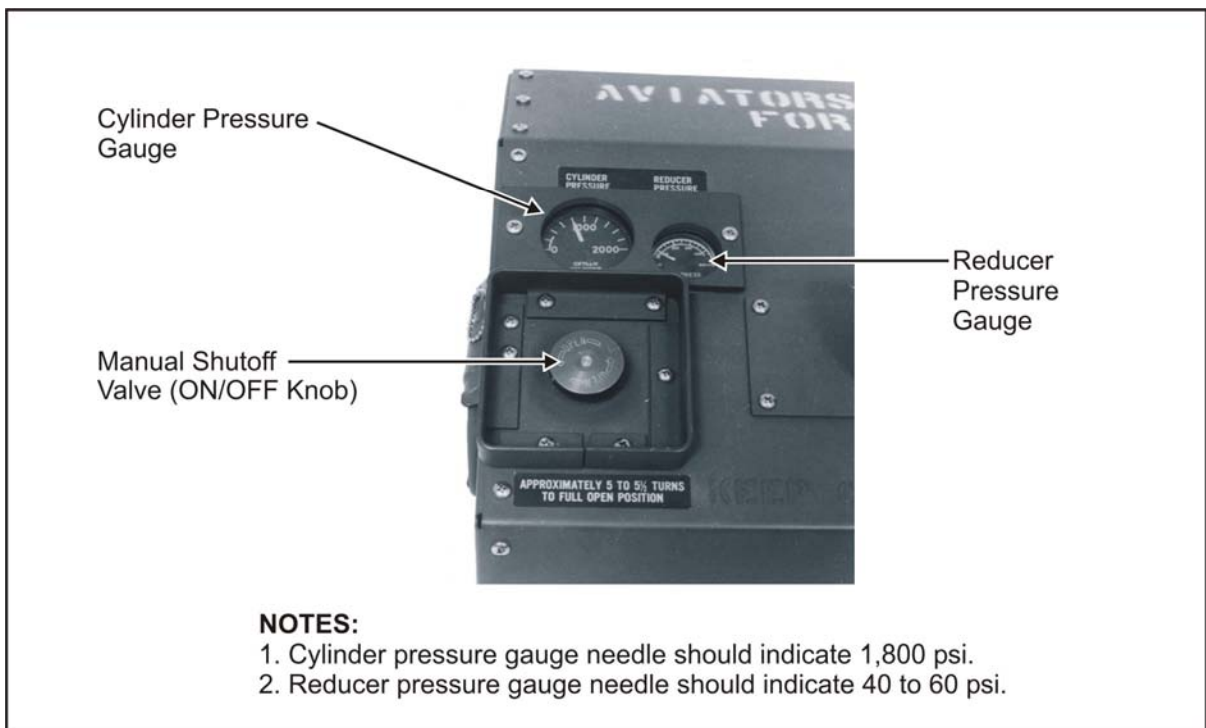

Figure 4-13. Pressure Gauge and Manual Shutoff Valve
- ☐ Turn the shutoff valve counterclockwise to the fully opened position (about 5 1/2 turns) (Figure 4-13, page 4-23).
- ☐ Ensure the reducer pressure gauge indicates 40 to 60 psi (Figure 4-13).